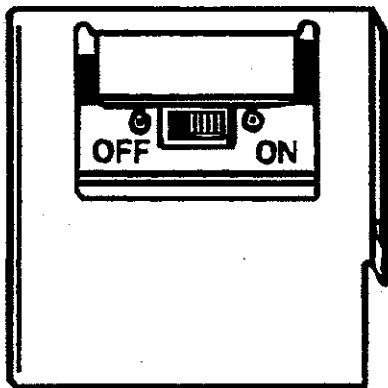

Figure 8
- If necessary, set switch to **ON** position and replace toe grille. See Figure 8.